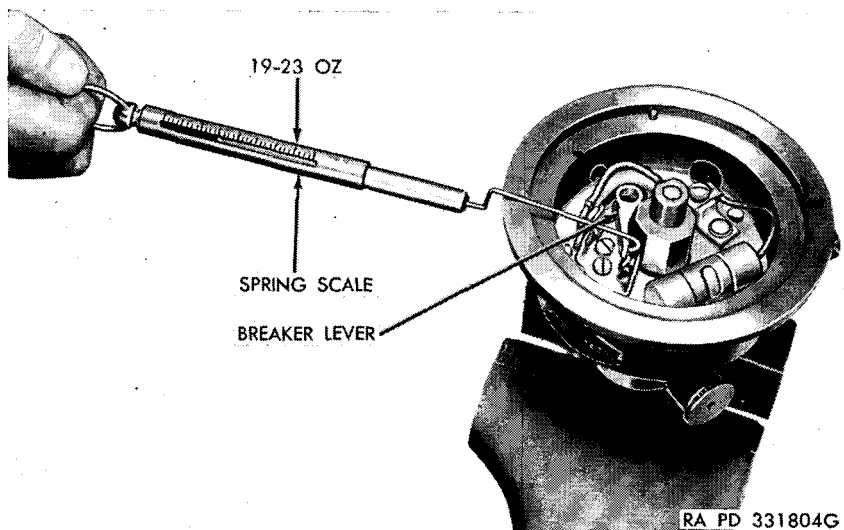

Figure 59. Checking breaker lever spring tension.
- (5) *Checking breaker lever spring tension.* Check tension of breaker lever spring, with spring scale hooked over lever as close to points as possible and held at right angles to lever (fig. 59). Correct tension is 19–23 ounces. If spring scale is not available, check tension by feel. Tension can be adjusted